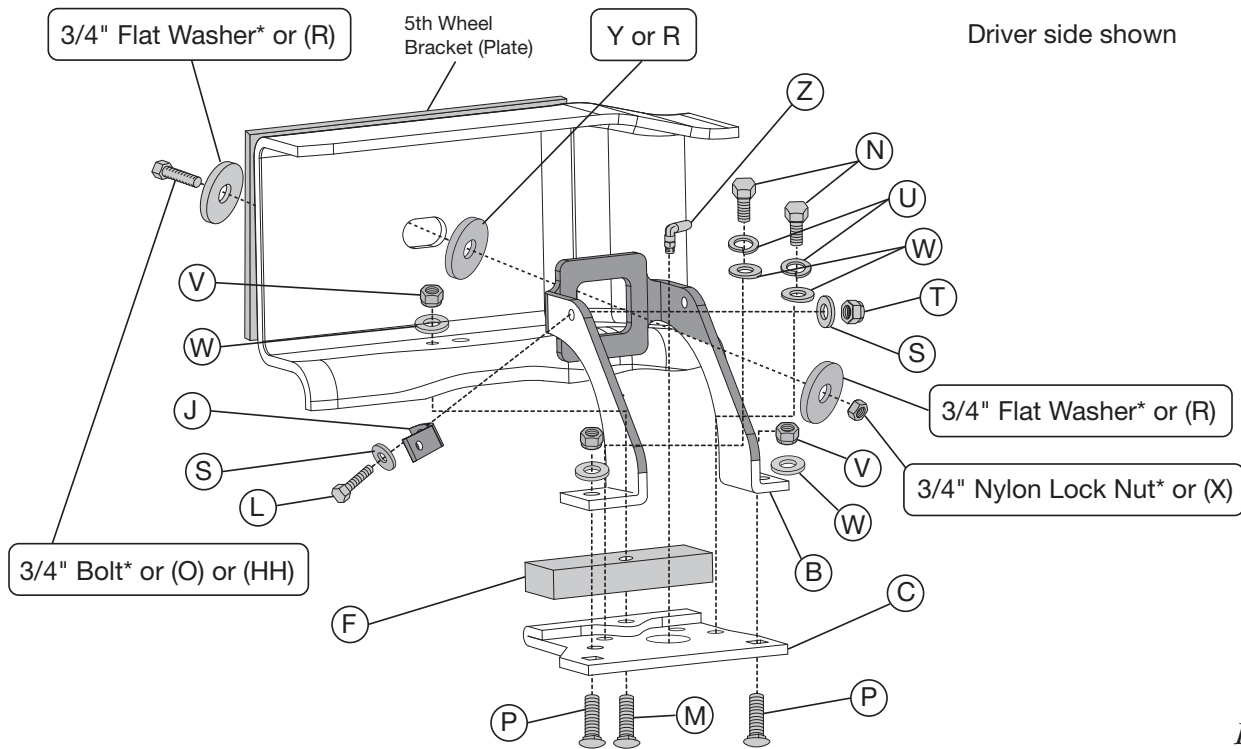

Fig. 4
1. Set the upper brace (B) into the driver and passenger side frame (Fig. 4).
If you have an aftermarket fifth wheel hitch that has a bracket (plate) running along side of the frame and it used this slot to secure the bracket to the frame with existing hardware, install the existing hardware previously removed in the “getting started section” from the fifth wheel installation for securing the brace (Fig. 4). Make sure to install the large 3/4” flat washer (Y) between the brace and frame (Figs. 1 and 4). Leave loose at this time.
Insert a 1/2”-13 x 3” hex cap screw (O) with a flat washer (R) through the fifth wheel plate previously drilled, the frame, then through another flat washer (R) and finally the upper frame brace. Cap with a flat washer (R) and a 1/2”-13 nylon lock nut (X) (Fig. 4). Leave loose at this time.